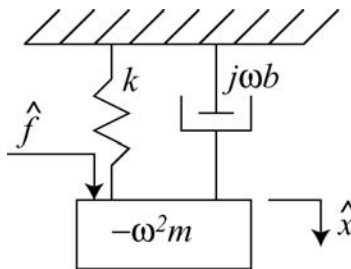

Figure 2. Phasor analysis of mass-spring-damper system.
Step 1. Represent sinusoidal forces and displacements by phasors (complex numbers with the same amplitude and phase) denoted with hats as shown in Figure 2..
Step 2. Make the substitution $\frac{d}{dt} \rightarrow j\omega$ in component equations. In the case of mass, springs, dampers, forces, and displacements, this means we can substitute the complex impedances from table above in Figure 2. (Velocities, v , and accelerations, a , are related